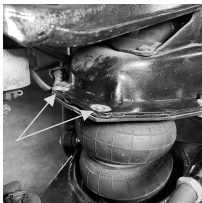

Fig 1.
3. Remove the two outer upper bag mount bolts. (Fig. 1.)